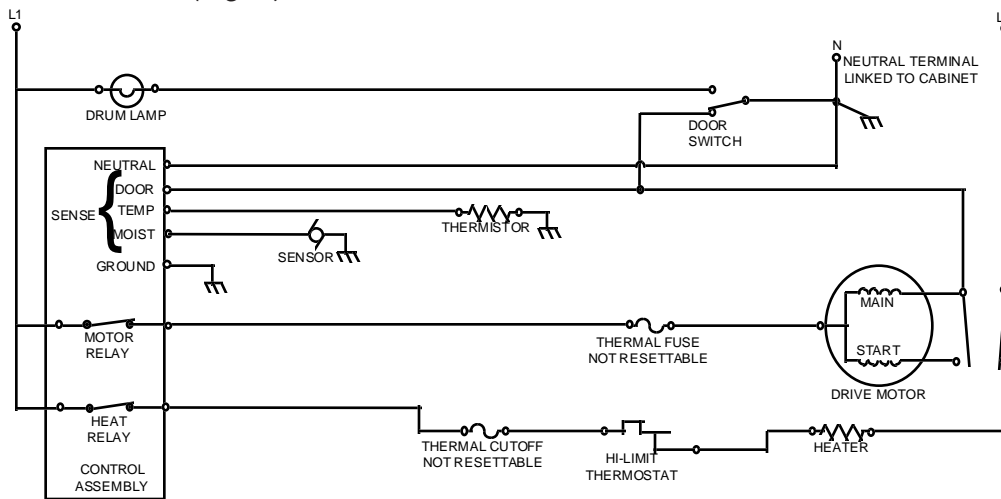

Figure 8
4. Based on the signal from the thermistor, the microcomputer will cycle the heat relay which energizes the heater coil. (Fig. 8)